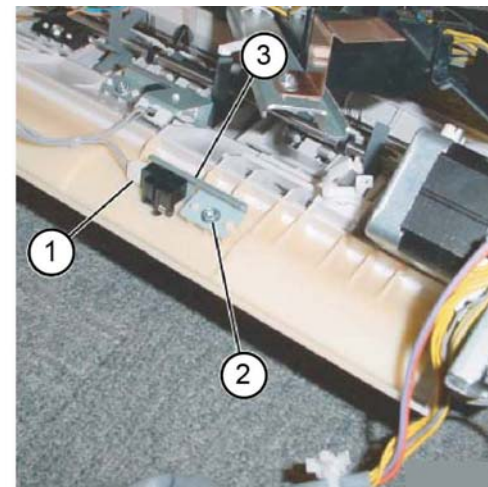

Figure 3 Entrance sensor assembly removal
6. Remove the finisher entrance sensor assembly, Figure 3:
- a. Disconnect the connector (1).
- b. Remove the self-tapping screw (2).
- c. Remove the finisher entrance sensor assembly (3).